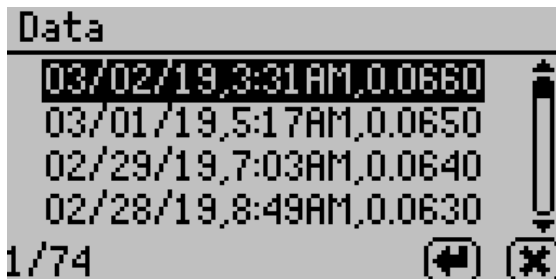

Figure 6 List of saved tests
3. Scroll through the list of saved tests using **UP** and **DOWN** (to move one item at a time) or **RIGHT** and **LEFT** (to move a page at a time) (Figure 6).